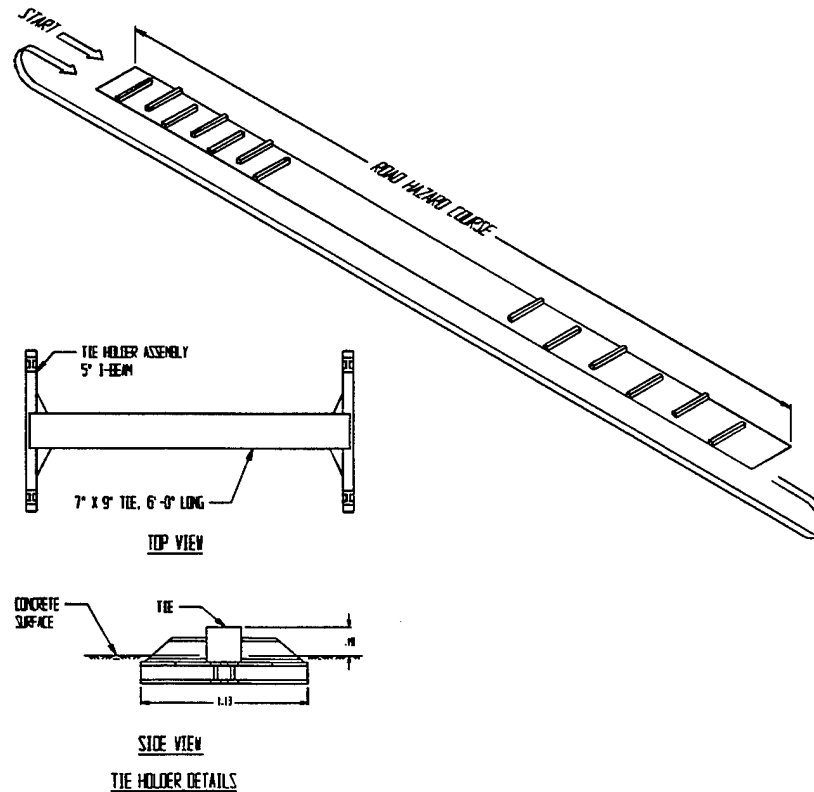

FIGURE 1
A. ROAD HAZARD COURSE. The test specimen was subjected to the road hazard course. Using a suitable truck/tractor or tactical vehicle, the vehicle/specimen in question was towed/driven over a hazard course two times prior to the road trip and two times following the road trip. The vehicle/specimen was towed/driven at a speed of approximately 5 mph. The speed may be increased or decreased, as appropriate, to produce the most violent load response (see Figure 1).